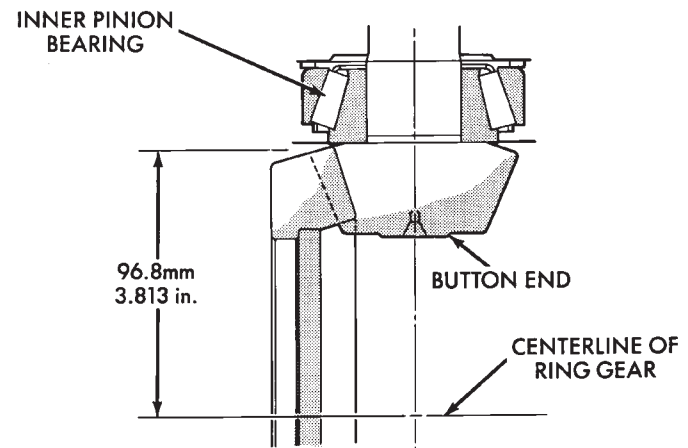

Fig. 23 Pinion Gear Head
plus (+) number, minus (-) number or zero (0) is etched into the face of the pinion gear. This number is the amount (in thousandths of an inch) the depth varies from the standard depth setting of a pinion etched with a (0). The standard setting from the centerline of the ring gear to the back face of the pinion is 96.8 mm (3.813 inches) for Model 35 axles (Fig. 23). The standard depth provides the best teeth contact pattern.
THE BUTTON END ON THE PINION GEAR HEAD IS NO LONGER A MACHINED-TO-SPECIFICATIONS SURFACE. DO NOT USE THIS SURFACE FOR PINION DEPTH SET-UP OR CHECKING (Fig. 23).